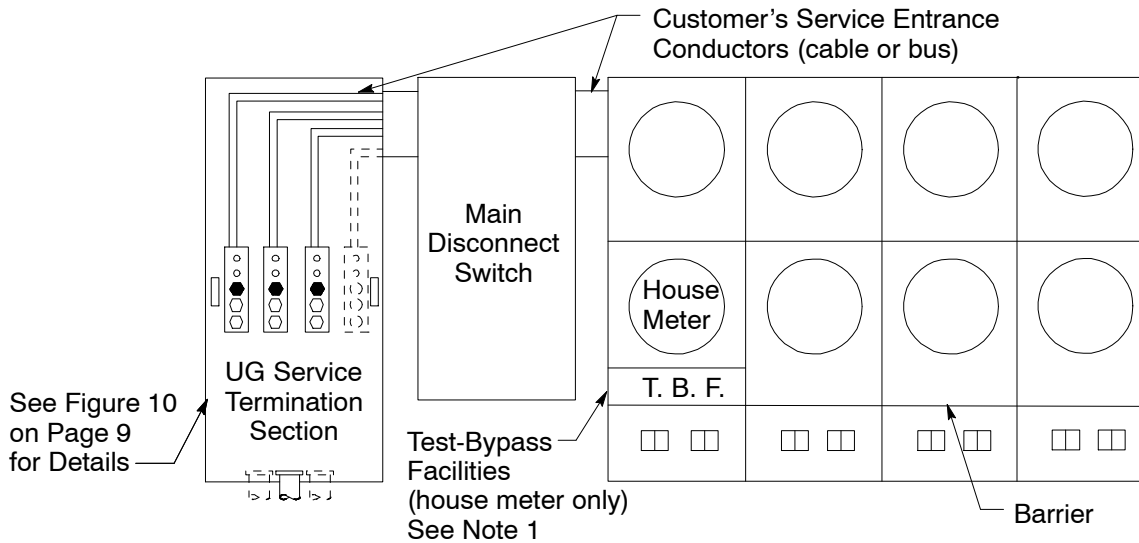

Figure 9
B. When a multi-unit residential meter panel services either a three-phase or a larger than 200-amp single-phase house (utility) load, it shall be equipped with approved test-bypass facilities (see Figure 9 on Page 8).
1. When a multi-unit residential meter socket panel will have either a three-phase, or a larger than 200-amp single-phase house (utility) meter, the socket for this meter shall be equipped with test-bypass facilities (see Figure 9).